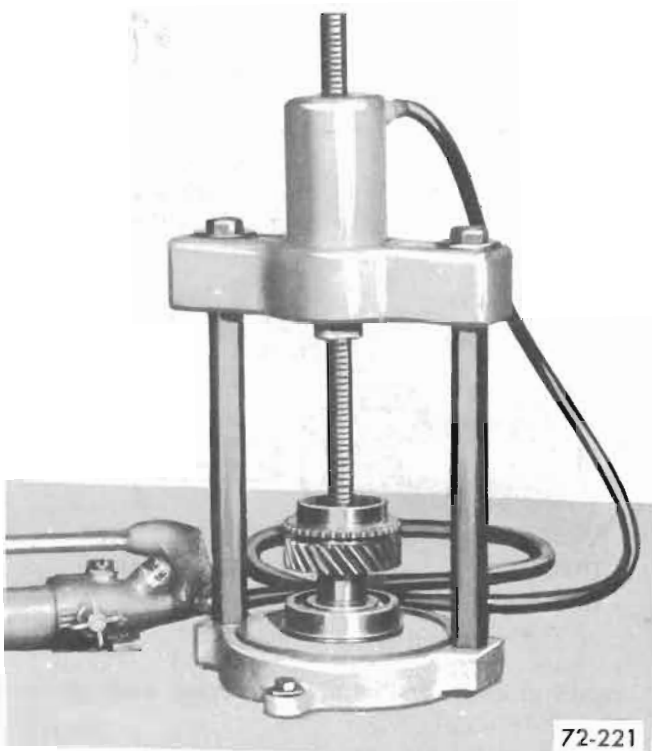

Figure 72-89 - Installing Front Main Bearing
a. Press bearing onto main drive gear (snap ring groove to front). See Figure 72-89. Make certain bearing fully seats against shoulder on gear.